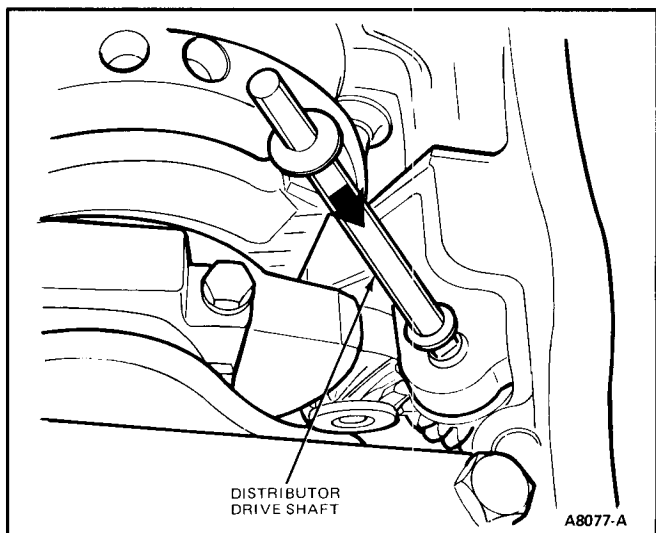

FIG. 47 Oil Pump Shaft Driveshaft
4. Remove oil pump driveshaft, if necessary (Fig. 47).
1. Install oil pump driveshaft, if removed, making sure it is fully engaged with intermediate shaft (Fig. 47).